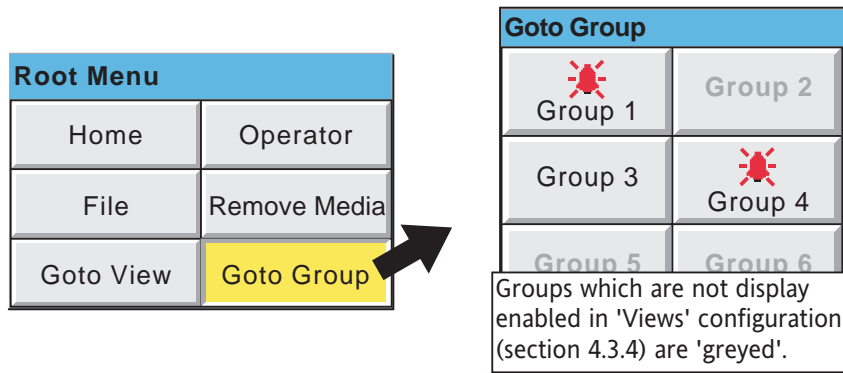

Figure 3.2.1b Root menu with Goto Group sub menu
**Goto Group** Allows a group to be selected for display. Groups which are not 'display enabled' in the Config/Views page (section 4.3.4) are greyed. An alarm icon appears (as shown for groups 1 and 4, in figure 3.2.1b, below) for any group containing one or more points in alarm. The icon flashes if any of the group's alarms have not been acknowledged.